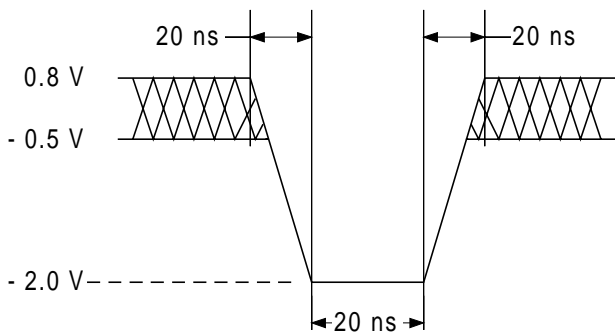
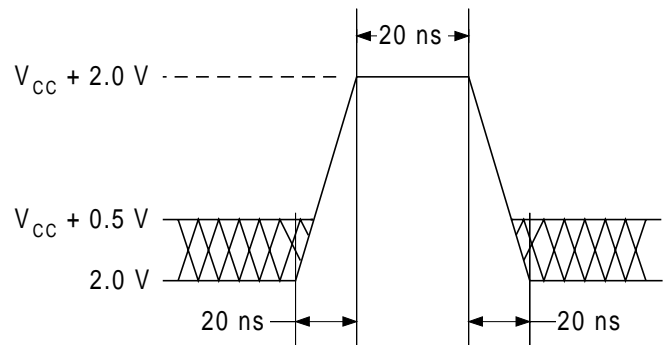

Figure 9. Maximum Undershoot Waveform
Figure 10. Maximum Overshoot Waveform
1. Minimum DC voltage on input or I/O pins is -0.5 V. During voltage transitions, input or I/O pins may undershoot V_{SS} to -2.0V for periods of up to 20 ns. See Figure 9. Maximum DC voltage on input or I/O pins is $V_{CC} + 0.5$ V. During voltage transitions, input or I/O pins may overshoot to $V_{CC} + 2.0$ V for periods up to 20 ns. See Figure 10.
2. Minimum DC input voltage on pins A[9], OE#, and RESET# is -0.5 V. During voltage transitions, A[9], OE#, and RESET# may undershoot V_{SS} to -2.0 V for periods of up to 20 ns. See Figure 9. Maximum DC input voltage on these pins is +12.5 V which may overshoot to 13.5 V for periods up to 20 ns.